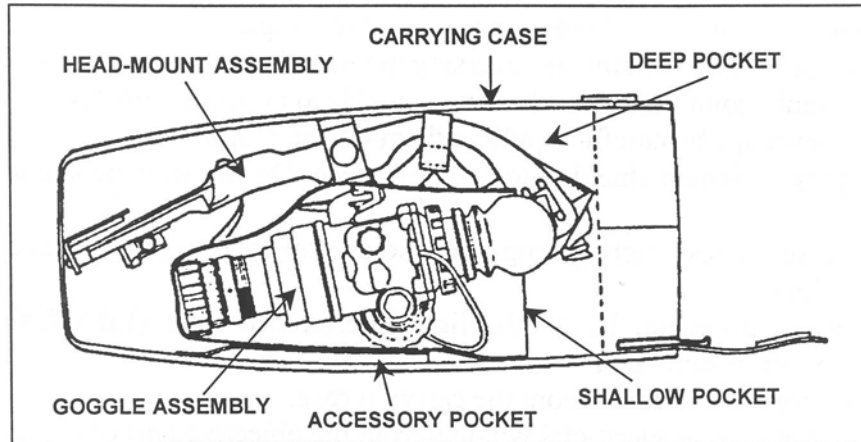

Figure 5. Stow goggles in carrying case.
- (1) Place the protective mask on your head per instructions provided with the protective mask.
- (2) Make sure you do not break the seal of the protective mask around your face when you install the headmount assembly over the protective mask.
6. Stow the night vision goggles (Figure 5).